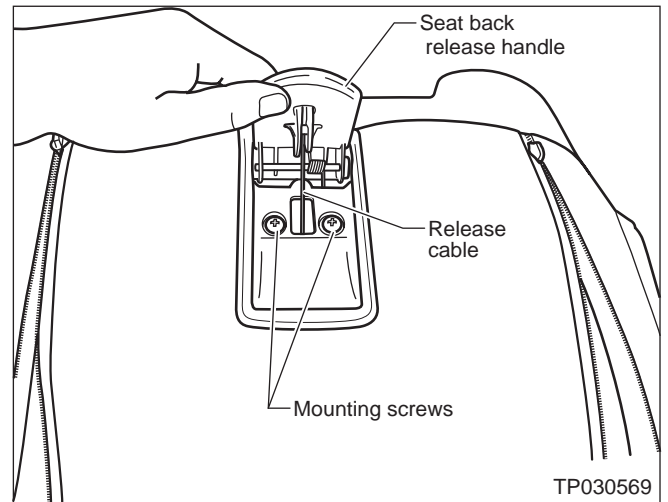

Figure 4
6. Remove the seat back release handle from the seat back (see Figure 4).